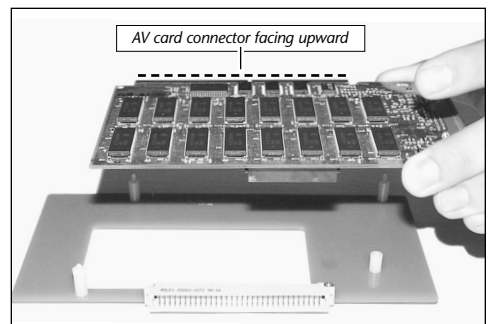

Figure 13: Orient AV card over adapter board
- Orient the video adapter board in front of you as shown in Figure 13. Align the AV card directly over the adapter board with the connector of the AV card facing upward (**Figure 13**). The holes on the AV card should align directly with the standoffs on the adapter board.